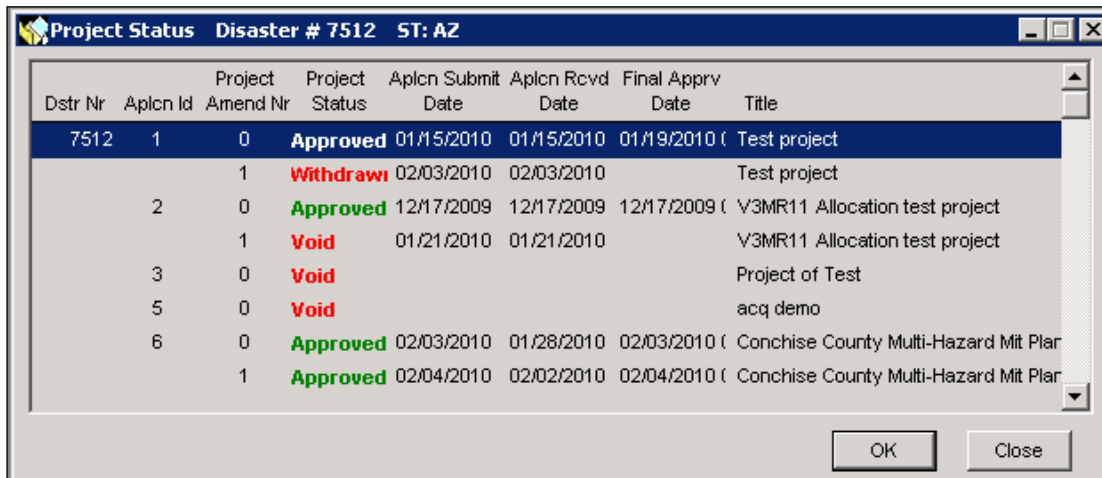

Figure 11-24: Project Status List
2. The Project Status List is displayed (Figure 11-24).